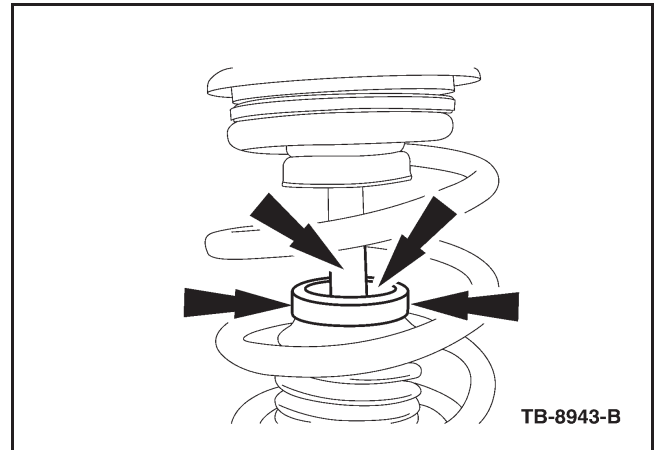

Figure 1 - Article 09-19-4
3. Apply Motorcraft Silicone Brake Caliper Grease and Dielectric Compound: (Figure 1)